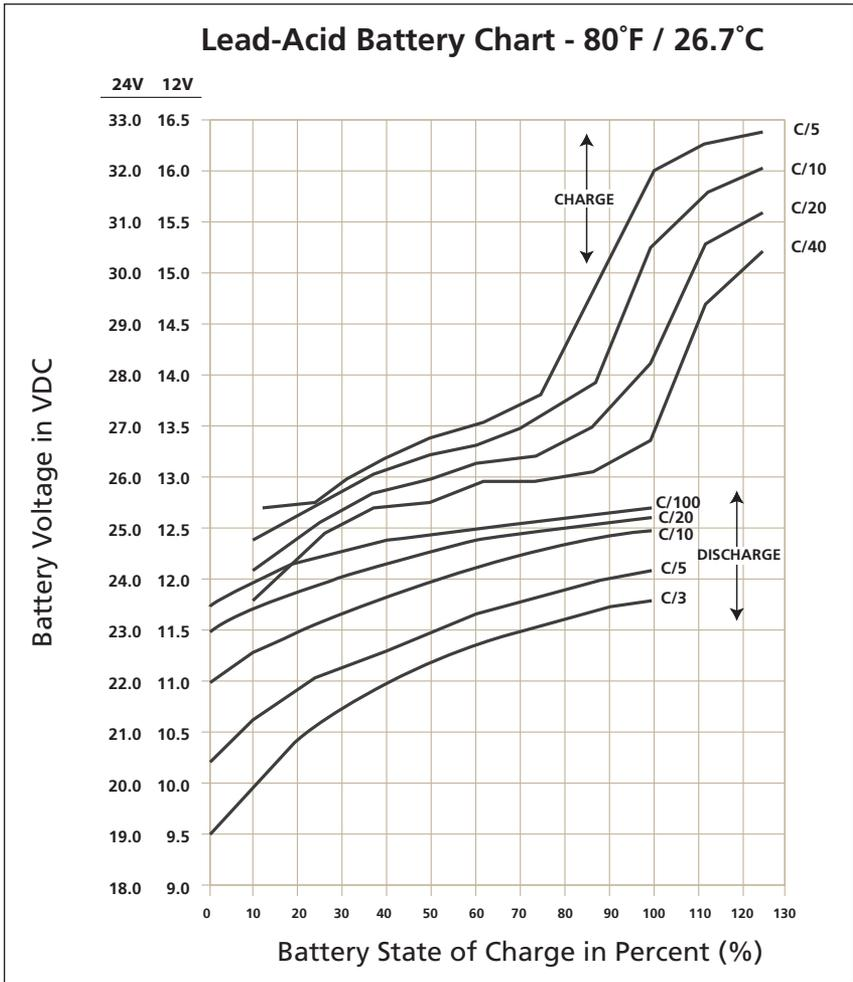

Fig 4.1 State of Charge versus Battery Terminal Voltage for 12V / 24V Battery
Charge / Discharge Curves as shown in Fig 4.1 are used to determine the State of Charge / Discharge of Lead Acid Battery based on its terminal voltage and the rate of charge / discharge current specified as "C-rate" (See Section 4.2 below). Details of using Charge / Discharge Curves in Fig 4.1 to determine State of Charge / Discharge of Lead Acid Battery are explained in the succeeding Sections.
**4.3.1** Fig 4.1 shows examples of State of Charge / Discharge Curves for different C-rates for typical 12V / 24V Lead Acid Battery at 80°F / 26.7°C. These curves are used to determine the State of Charge / Discharge of the battery based on its terminal voltage.
**4.3.2 Example of Determining State of Charge (using Fig 4.1) when Charging 12V, 100Ah Battery at C-rate of 0.1C or C/10 or 10A:** Refer to Charge Curve marked C/10 of the upper 4 curves marked "CHARGE". States of Charge at different battery terminal voltages will be: (a) At 15.3V = 100% charged; (b) At 14.3V = 90% charged; (c) At 13.5V = 70% charged; (d) At 12.5V = 15% charged
**4.3.3 Example of Determining State of Discharge (using Fig 4.1) when Discharging 12V, 100Ah Battery at C-rate of 0.33C or C/3 or 33.3A:** Refer to Charge Curve marked C/3 of the lower 4 curves marked "DISCHARGE". States of Discharge at different battery terminal voltages will be: [a] At 9.5V = 100% discharged (0% charged); [b] At 10.4V = 80% discharged (20% charged); [c] At 11.5V = 28% discharged (72% charged) and [d] 11.75V = 0% discharged (100% charged)